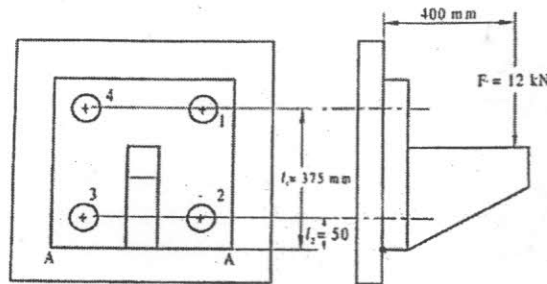

Fig.Q7(a)
7. a) A Bracket is fixed on a steel column as shown in Fig.Q7 (a) for supporting a travelling crane in a workshop. The maximum load that comes on the bracket is 12kN, acting vertically at a distance of 400mm from the face of the column.